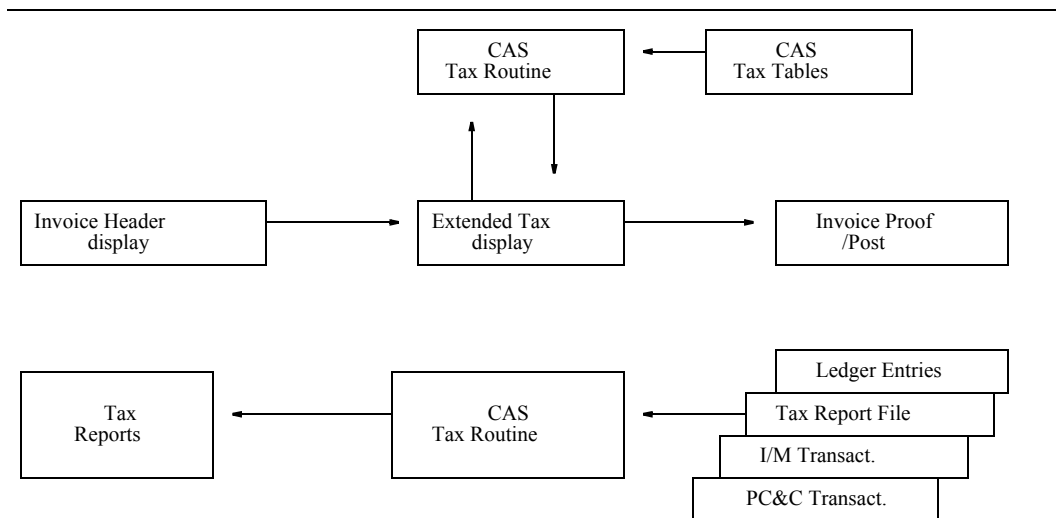

Figure 4-2. Accounts Payable extended tax processing data flow
- You can record detailed tax information about an invoice using the Extended Tax Processing display. Figure 4-2 explains the flow of extended tax processing.